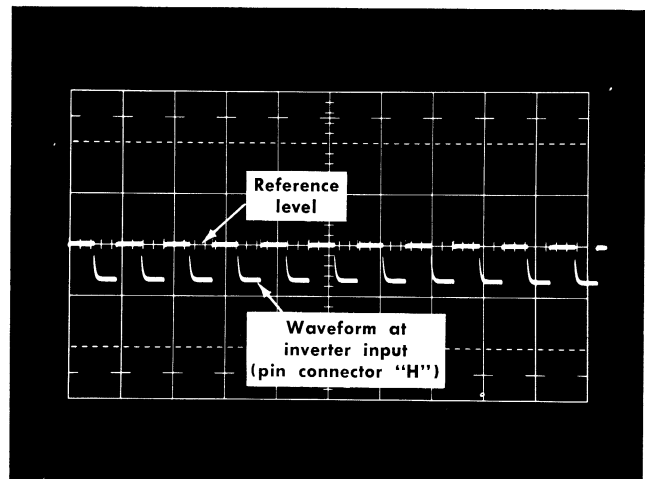

Fig. 5-30. Waveform for checking inverter input zero.
- Check** for a reading of zero volts (reference level) at the top of the waveform (see Fig. 5-30).